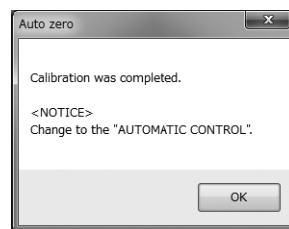

Fig.143
- ⑤ Click "OK" to execute the zero point adjustment, then click "OK" again in the message box (Fig. 143) displayed when adjustment is complete to exit automatic zero point adjustment. The results are displayed as shown in Fig. 144.